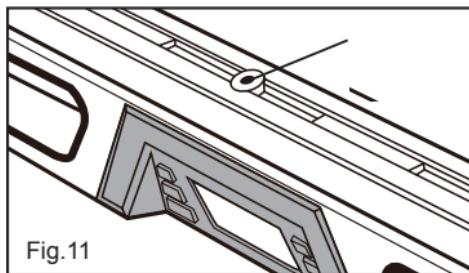

Fig.11
### Operation with tripod (Figs.11,12 and 13)
- Screw the level to the tripod using the 1/4-in. threaded hole located in the center of the working surface of the level (see Fig. 11).